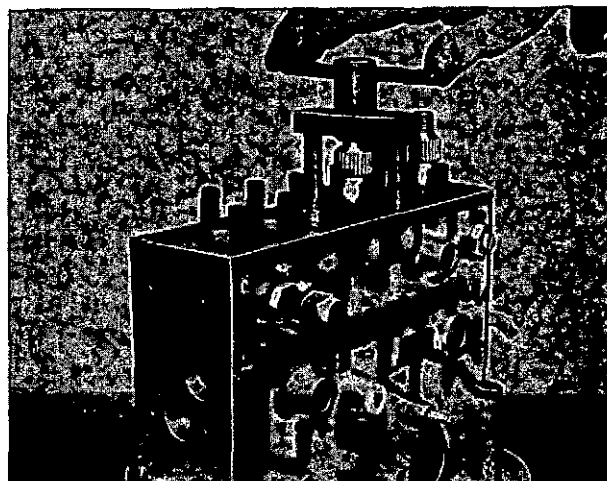
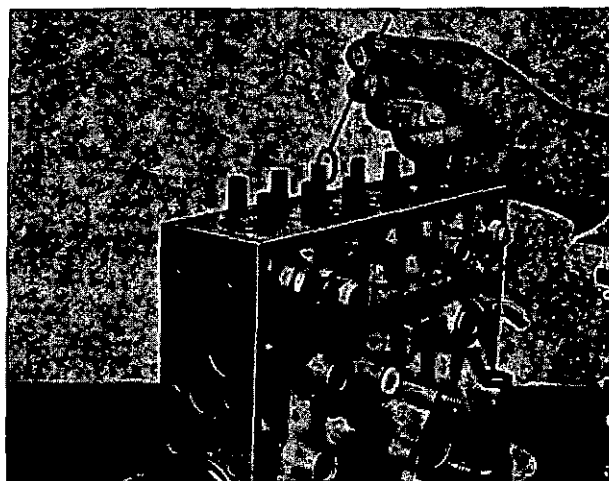

Fig. 18 Extracting delivery valve
Fig. 19 Removing packings from housing
15. Turn pump upright and remove the top cover. Unscrew the nuts securing the delivery valves and remove their washers. Extract the delivery valves, using tool 1 688 110 026 (fig. 18), ensuring that each assembly is stored in the same compartment as its associated components removed in Operation 11. Remove any packings which may have remained in the housing (fig. 19).